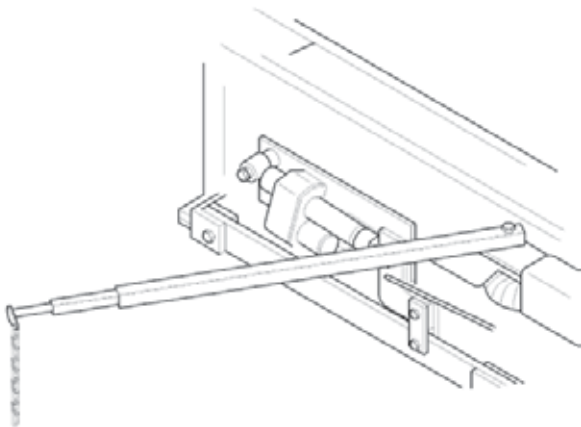

Figure 4-9. Guide Bar Gauges
2. Make sure to use a reference guideline. This can be a curb, gutter, adjacent mat or a string line. It is important that the first pass be straight. It will be the guideline for the following passes. Use the guide bar gauges as shown in **Figure 4-9**